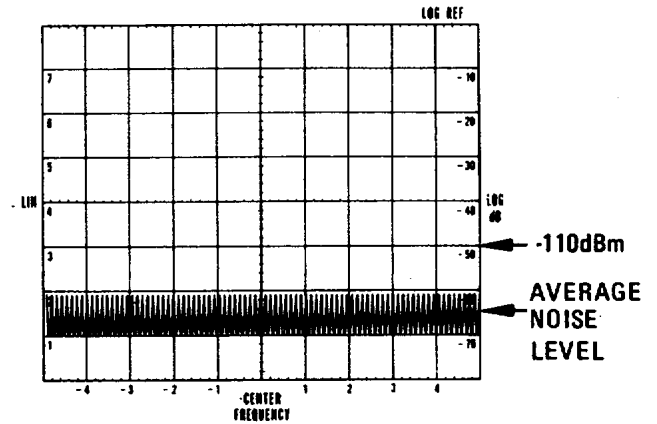

Figure 4-13. Residual Response Test: 10 to 110 MHz CRT Display
3. Observe the display as the analyzer scans from 10 to 110 MHz. The average noise level should be less than -110 dBm and no residual responses should occur. Figure 4-13 represents a scan with no residual response, and with the average noise level indicated.